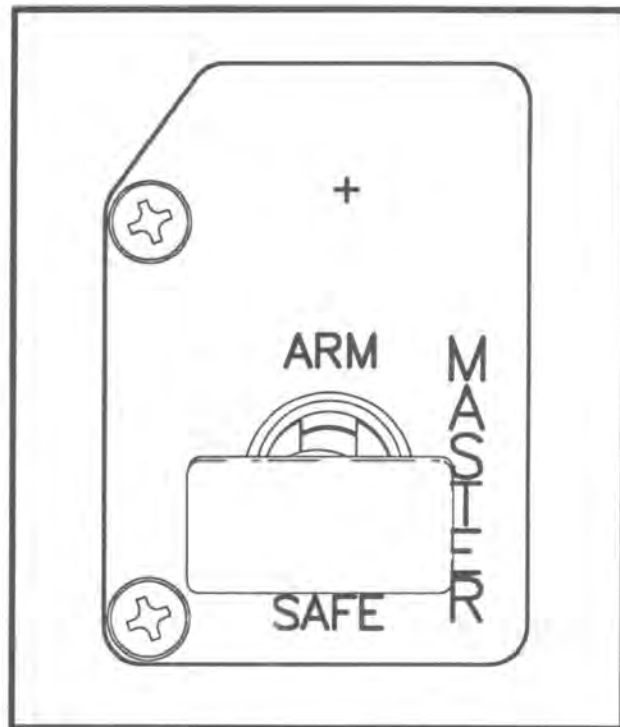

Figure 8-5 Master Arm Switch
8.39 All armament circuits are controlled by the **MASTER ARM** switch (Figure 8-5) with the exception of gun charging, countermeasures dispensing and emergency jettison of external stores. The **MASTER ARM** switch is located on the left side of the instrument panel above the